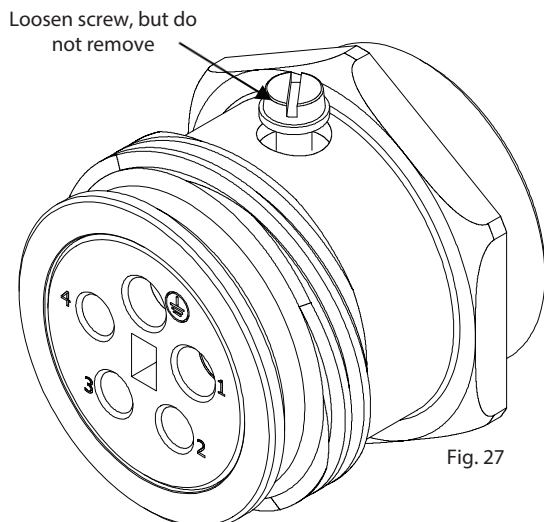

Fig. 27
29) Once the connector plug has been unpackaged the insert must be removed to allow for assembly. Loosening the screw on the body of the connector as shown in Fig.27 below until the insert is free to be removed from the connector. **Do not** fully remove the screw. Safely store insert until required.